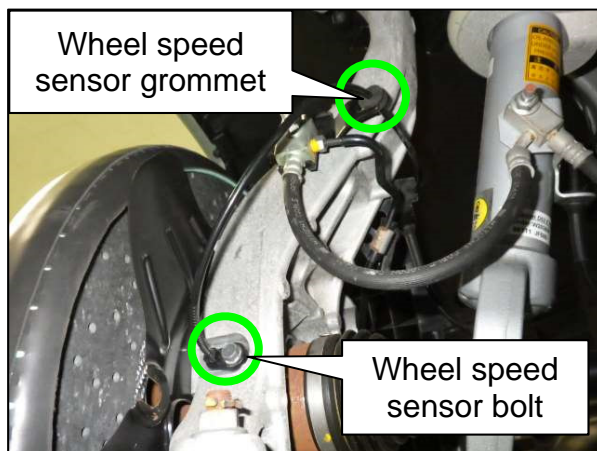
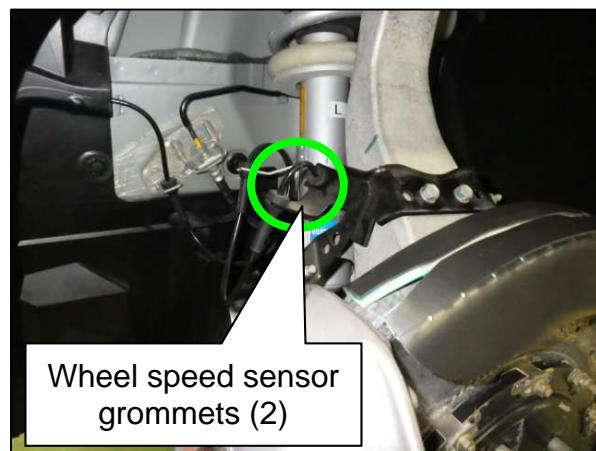

Figure 2
Figure 3
4. Remove the front wheel speed sensor bolt from the steering knuckle (Figure 2) and the 3 speed sensor harness grommets from the brake hose bracket (Figure 2 and Figure 3).